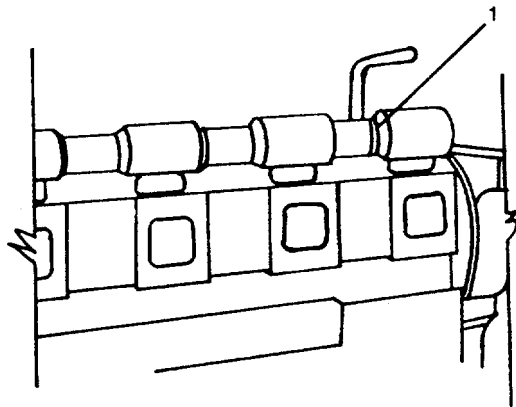

FIGURE 2-29. Water Transfer Retaining Ring Removal.
- (1) Remove associated water transfer tube retaining rings (1, FIG. 2-29).